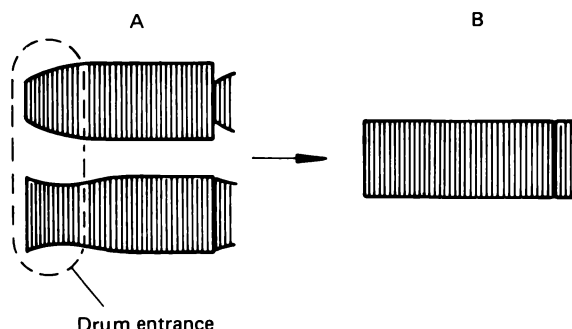

Fig. 2-28 Drum entrance adjustment
- 1) Refer to Fig. 2-28. Examples of incorrect waveforms are shown by A. Use a slotted screwdriver to adjust the supply guide roller so that the rising portion (drum entrance) of the waveform becomes flat as shown by B.